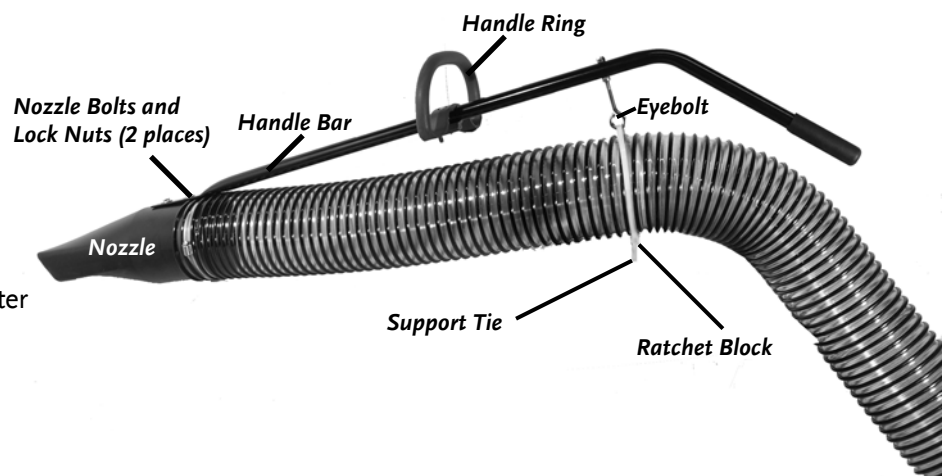

Figure 1
NOTE: The Hand Vacuum Hose shipped partially assembled. The following instructions detail the steps required to assemble the Handle Bar to the Nozzle and the Support Tie for the Hose (**Figure 1**).
1. The Handle Ring is shipped in a position suitable for packaging with the Ring Clamp Bolt only partially tightened. Rotate the Handle Ring upward but do not tighten at this time (**Figure 1**).
2. Locate the two (2) Bolts protruding from the Nozzle and align the two (2) holes at the end of the Handle Bar and add a Lock Nut on each Bolt (**Figure 1**). Tighten the Lock Nuts using the 1/2" wrench.
3. Thread the Support Tie through the Eyebolt and wrap it around the Hose. Pass the end through the Ratchet Block on the end of the Support Tie (**Figure 1**).
4. Pull the excess Support Tie through the Ratchet Block. Leave the Tie loop slightly larger than the diameter of the Hose. Do not over-tighten (**Figure 1**).